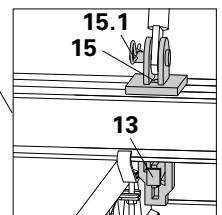

Fig. B1.03
3. Insert K-wedge (13) and hammer in tightly.
- (Fig. B1.03)